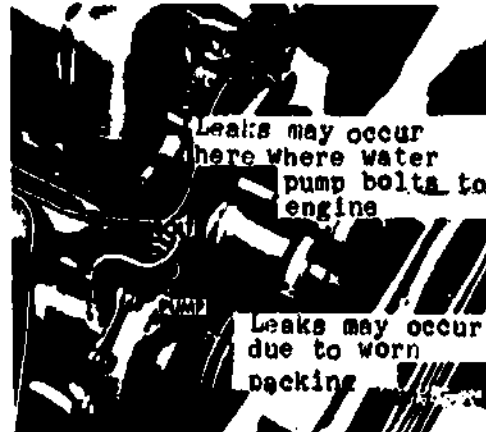

Fig 2-68. Use the fan blades to check water pump shaft.
e. Fan. Check fan for tightness by grasping the fan blades (CAUTION, make sure no one could accidentally hit the stator) and with slight pressure from front to rear, check for looseness of the shaft (fig 2-68) in the water pump. If you find looseness in the shaft, it may indicate a problem in the water pump and you should indicate a problem in the water pump and note it in the weekly for supervisory action.